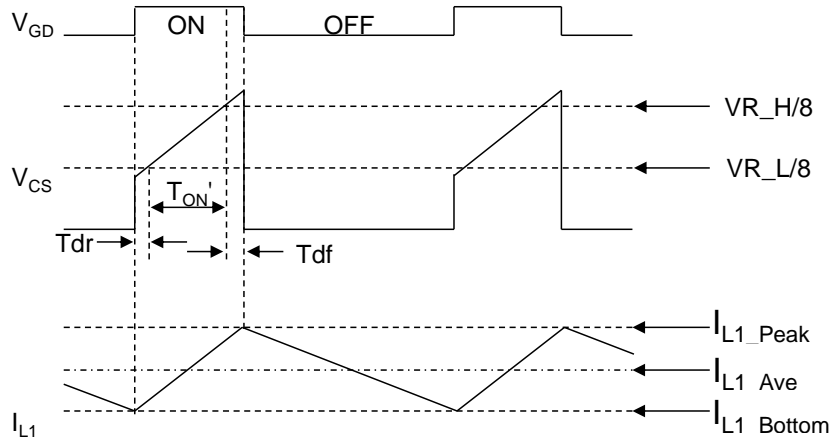

Figure 23. Time Waveform with Group Delay
As mentioned in “2) Switching Frequency”, the inductance value of the coil is determined by input/output voltage conditions and switching frequency [Fsw]. However, the setting calculations for the RVLY pin and the CS pin do not include group delay of the circuit. For example, ΔI_{LI} does not include group delay but T_{ON} includes group delay in equation (10). Therefore, a T_{ON} value without group delay must be calculated to determine the coil inductance by equation (10). Figure 23 shows a detailed time waveform of the GD pin voltage, the CS pin voltage and the coil current, which is shown in Figure 2, with group delay.
In Figure 23, T_{dr} indicates group delay from a rising of the GD pin voltage to a falling of the A2 comparator. T_{df} indicates group delay from a peak current detection of the CS pin to a falling of the GD pin voltage. Although these values vary depending on the characteristics of M_1 and IC performance, group delays are approximately determined by following expressions.